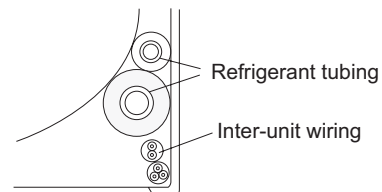

Fig. 2-191
- (3) Install the indoor unit on the rear panel.
- (4) Connect the tubing and wiring led inside from outdoors.
- (5) After completing a leak test, bundle the tubing together with armoring tape and store it inside the tubing storage area at the back of the indoor unit and hold it with clamps. (Fig. 2-191)